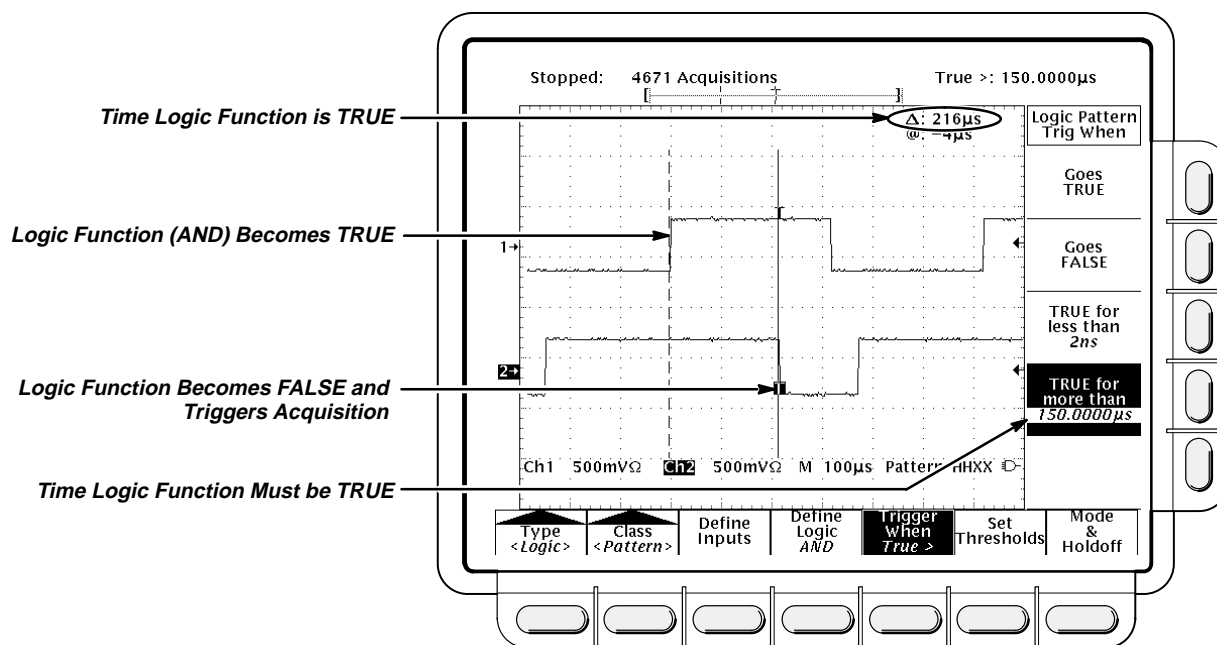

Figure 3-28: Logic Trigger Menu—Time Qualified TRUE
Note the position of the trigger indicator in Figure 3-28. Triggering occurs at the point the logic function you specify is determined to be true within the time you specify. The digitizing oscilloscope determines the trigger point in the following manner:
In Figure 3-28, the delay between the vertical bar cursors is the time the logic function is TRUE. Since this time is more (216 μ s) than that set in the **True for more than** menu item (150 μ s), the oscilloscope issues the trigger at that point, not at the point at which it has been true for 216 μ s.